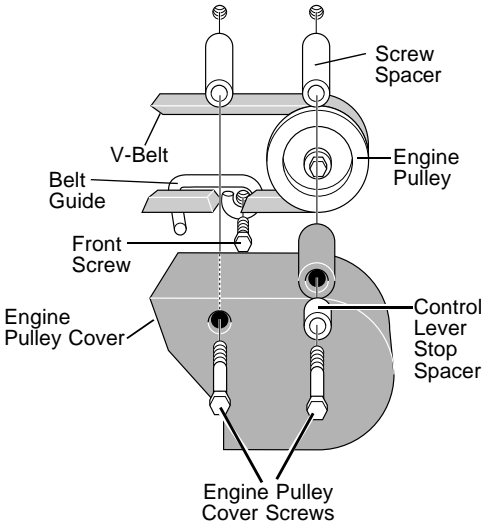

FIG. 1-SERV & ADJ
- Remove the two top screws from the engine pulley cover as shown in **Fig 1-SERV& ADJ** and remove the cover. Make sure you do not lose the spacer on the rear screw.
- Remove the front screw securing the belt guide as shown in **Fig. 1-SERV& ADJ**, to the engine. Swing the belt guide away from the belt.